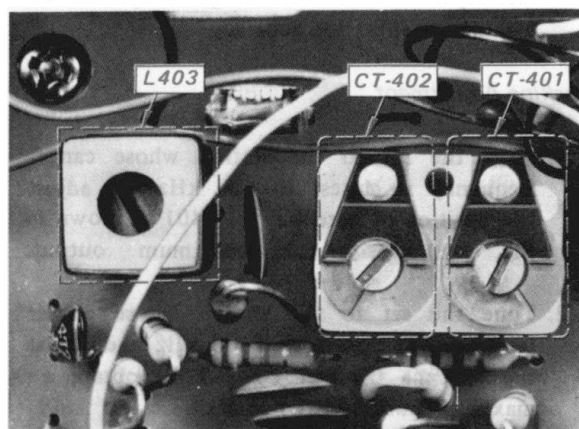

Fig. 5-19. Parts location
- Check the dial scale for a calibration accuracy of ± 40 kHz from the carrier frequency of the lowest and ± 20 kHz at the highest station. If the dial-accuracy deviation exceeds this limit, turn the local oscillator-coil L403 as shown in Fig. 5-19, slightly until optimum dial calibration is obtained.
- Tune the receiver to the highest-frequency station in your locality. If the dial-calibration error is excessive, adjust local-oscillator trimmer-capacitor CT402 (see Fig. 5-19.) to obtain maximum calibration accuracy.
- Tune the set to the station whose carrier frequency is closest to 1400 kHz and adjust the antenna trimmer CT 401 to obtain a maximum output. See Fig. 5-19.